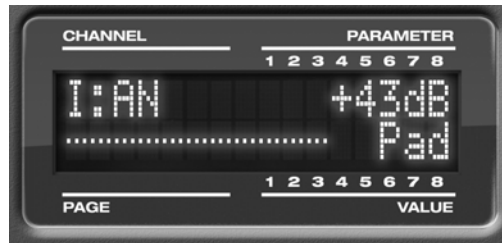

Figure 6-2: the LCD provides feedback when you adjust the Precision Digital Trim and pad for the four mic/guitar inputs.
Turn the Precision Digital Trim™ detented rotary encoders on the Traveler-mk3 front panel (Figure 6-1) to adjust the input level of their corresponding mic/guitar input on the rear panel. The LCD provides visual feedback as you turn the knob (Figure 6-2). Each detent adjusts the gain by approximately 1 dB. The gain range is from zero (0) to +53 dB. This is digitally controlled analog trim.
Push the rotary encoder once to view the current gain and pad settings as shown in Figure 6-2 without changing them. Push it again (while the